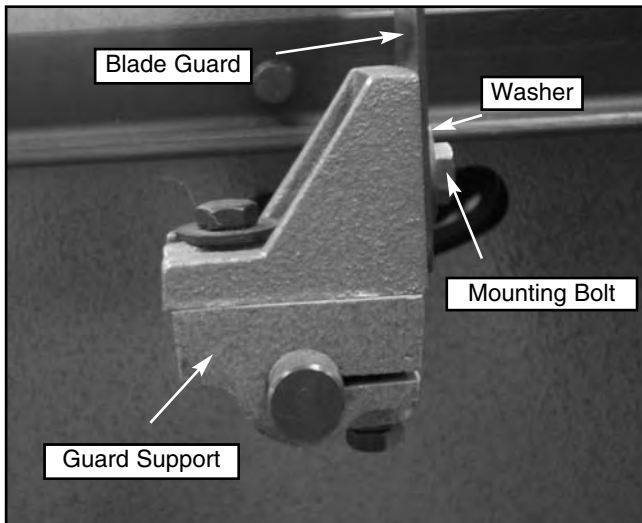

Figure 12. Blade guard and splitter in place.
1. Slip the blade guard/splitter over the mounting bolts as shown in **Figure 12**. The washers should be between the bolt head and the slots. Tighten the bolts to secure the blade guard/splitter.